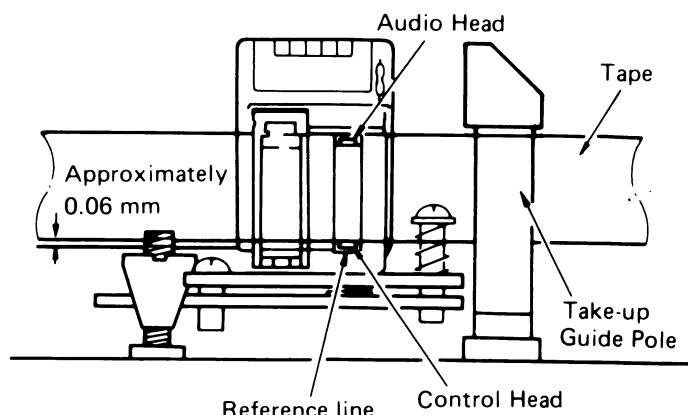

Fig. 21 Audio/Control head height
3. Carefully and evenly adjust screws (B), (C) and nut (A) to align the audio/control head height with the tape as shown in Fig. 21.